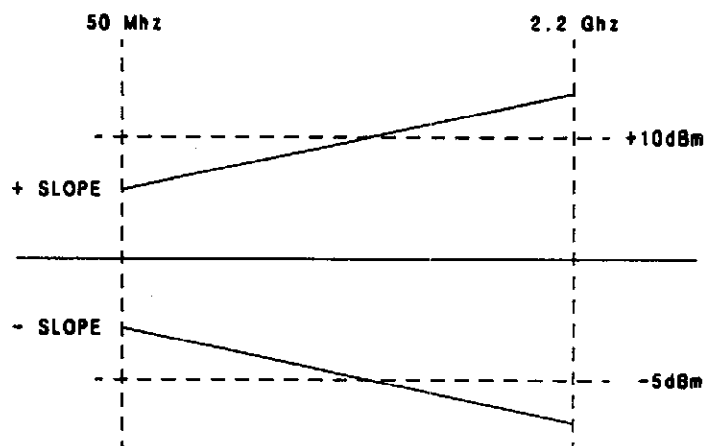

Figure 5-36b. 0 SLOPE Adjustment
9. Adjust A4R1 (0 SLOPE) to get the same but opposite difference between (50 MHz and 2.2 GHz at  $-5$  dB) and (50 MHz and 2.2 GHz at  $+10$  dB). See Figure 5-36b.